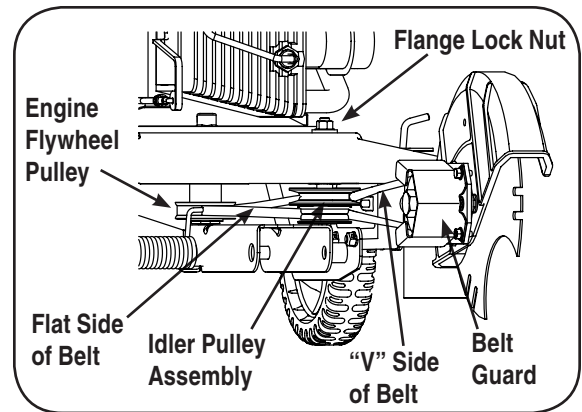

Figure 15
1. Working in front of the edger, loosen the flange lock nut on top of frame, allowing the idler pulley assembly to pivot slightly out from the frame. See Figure 15.
IMPORTANT: To aid in reassembly, note the orientation of the drive belt on the two idler pulleys and the engine flywheel pulley prior to performing the following steps. Refer to Figure 15.
IMPORTANT: Make certain that the “V” side of the belt is seated into the top pulley and the flat side of the belt is seated into the bottom pulley. See Figure 15.